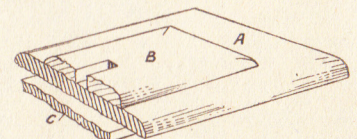

Fig. 3—The 3-piece lid
The lid of the box consists of three plain pieces of wood glued together as (A), (B) and (C) in the diagram Fig. 3. The main large section (A), measures $5\frac{1}{2}$ ins. by $3\frac{1}{2}$ ins. by $\frac{1}{4}$ in. thick, and to the top of this is glued a piece shown as (B) on the pattern sheet. This, and the main section of the lid has its edges shaped as shown in the cross hatched section on the sheet.